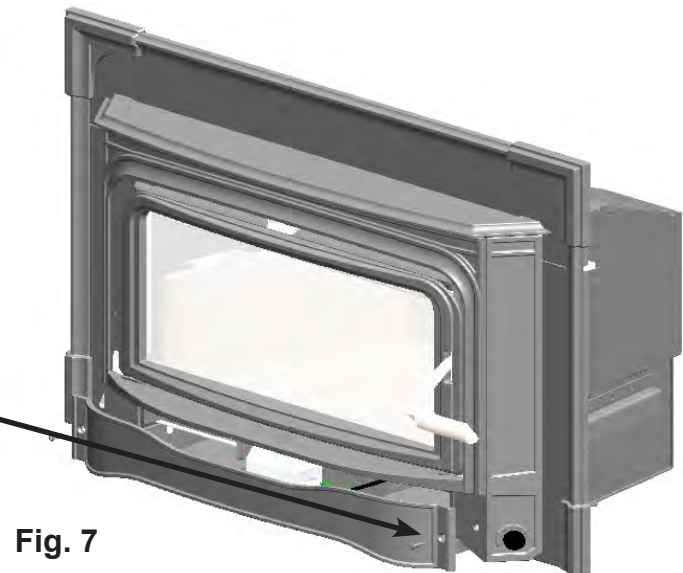

Fig. 7
9. Fasten lower cast cover to cast face using a 5/32" allen key, two screws. **(Fig. 7)**